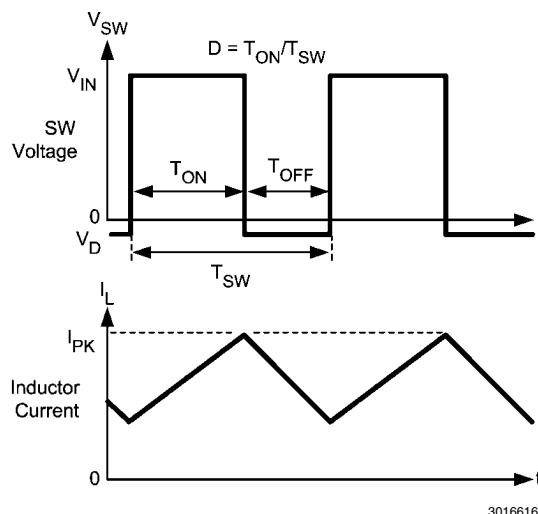

FIGURE 2. Typical Waveforms
The following operating description of the LMR10515 will refer to the Simplified Block Diagram (Figure 1) and to the waveforms in Figure 2. The LMR10515 supplies a regulated output voltage by switching the internal PMOS control switch at constant frequency and variable duty cycle. A switching cycle begins at the falling edge of the reset pulse generated by the internal oscillator. When this pulse goes low, the output control logic turns on the internal PMOS control switch. During this on-time, the SW pin voltage (V_{SW}) swings up to approximately V_{IN} , and the inductor current (I_L) increases with a linear slope. I_L is measured by the current sense amplifier, which generates an output proportional to the switch current. The sense signal is summed with the regulator's corrective ramp and compared to the error amplifier's output, which is proportional to the difference between the feedback voltage and V_{REF} . When the PWM comparator output goes high, the output switch turns off until the next switching cycle begins. During the switch off-time, inductor current discharges through the Schottky catch diode, which forces the SW pin to swing below ground by the forward voltage (V_D) of the Schottky catch diode. The regulator loop adjusts the duty cycle (D) to maintain a constant output voltage.